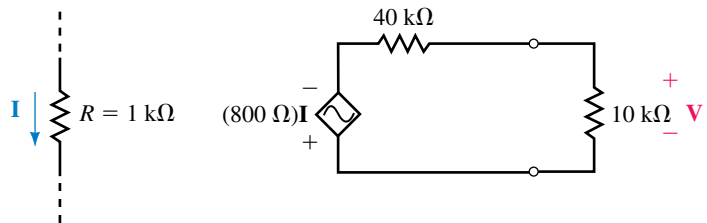

FIGURE 19-49
3. Repeat Problem 1 for the circuit of Figure 19-49.